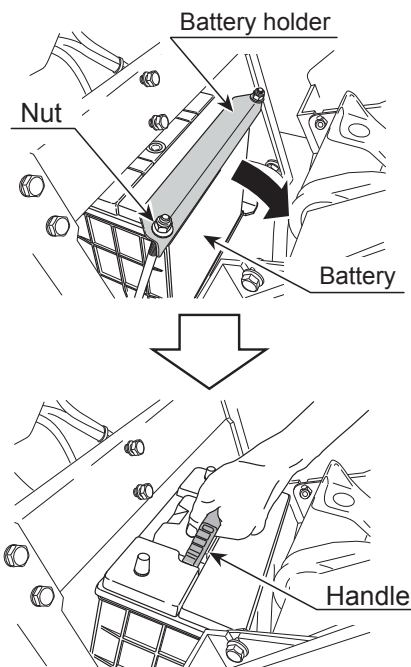

Figure 32. Removing Battery
4. Take off the nuts and remove the battery holder (Figure 32).
6. Pull up the handle on the top of the battery to remove the battery from the machine (Figure 32). Make sure that the battery terminals do not touch the frame.